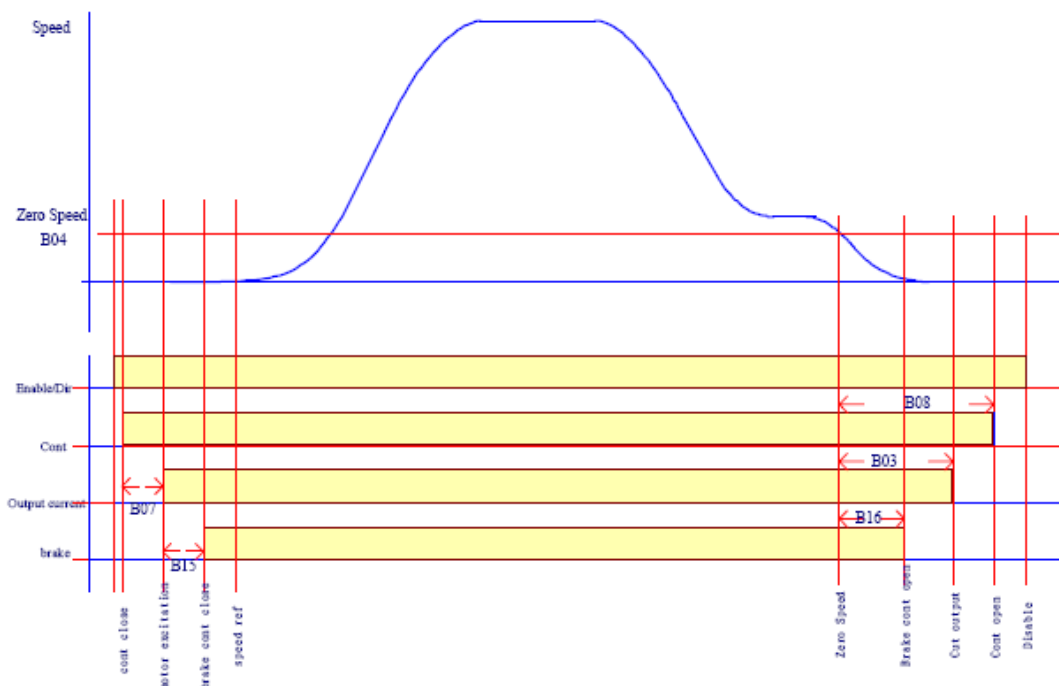

Figure 6.2 Adjustable sequence
2. If an output contactor detection point is defined (one of F01 to F12 is set to 11), the Inverter will begin power output and the motor will begin excitation after B07 delay when this port receives a contactor closing signal. Refer to Figure 6.2 Adjustable Sequence.
It is necessary to set this parameter only when the main circuit contactor is under direct control of the Inverter. During stopping, the Inverter will send a signal to cut off the output contactor after B08 delay from zero speed. Refer to Figure 6.2 Adjustable Sequence.
Refer to Figure 6.2 Adjustable Sequence.